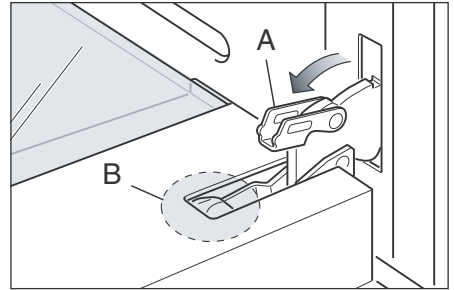
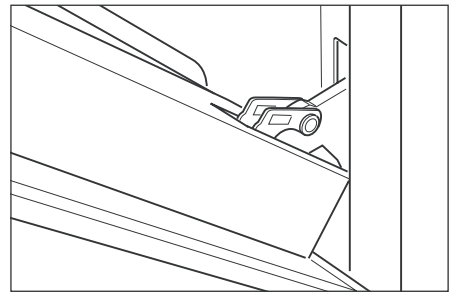

Fig.48b
Fig.48c
- Fully open the oven door (Fig. 48b).
- Fully open the lever "A" on the left and right hinges (Fig. 48b).
- Gently close the door (Fig. 48c) until the left and right hinges are hooked to part "B" of the door (Fig. 48b).